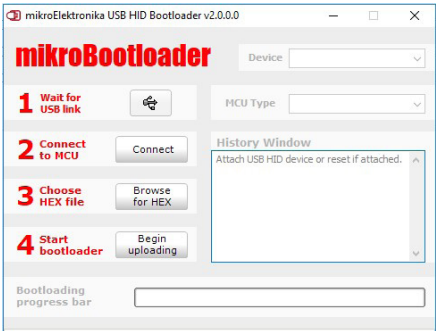

Figure 5: Bootloader PC application software used to upload ProSCT firmware updates.
A small utility program needs to be installed on the PC which will be used to download the new firmware file (updatexxx.hex) to the instrument. This is a third party software developed by MikroElektronika(1) for this purpose (Ref. Figure 5).